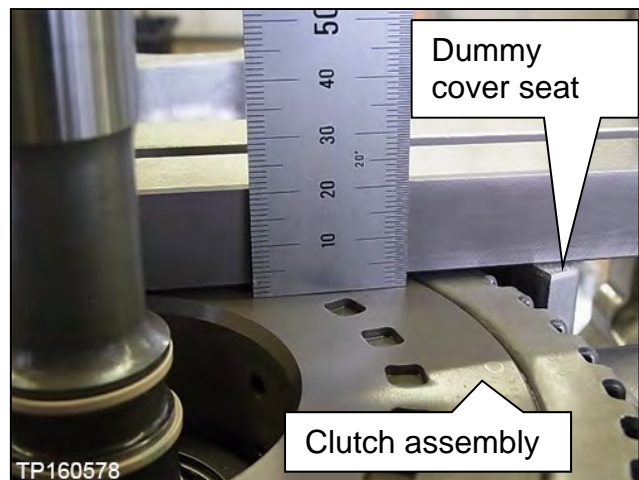

Figure 115
- The clutch assembly should sit 2-3 mm lower than the dummy cover seat (Figure 115).